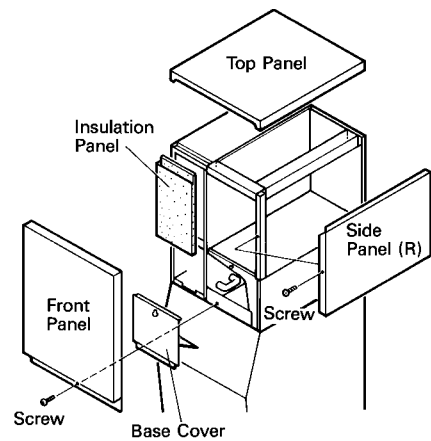

Fig. 1
2. HOW TO REMOVE PANELS - See Fig. 1